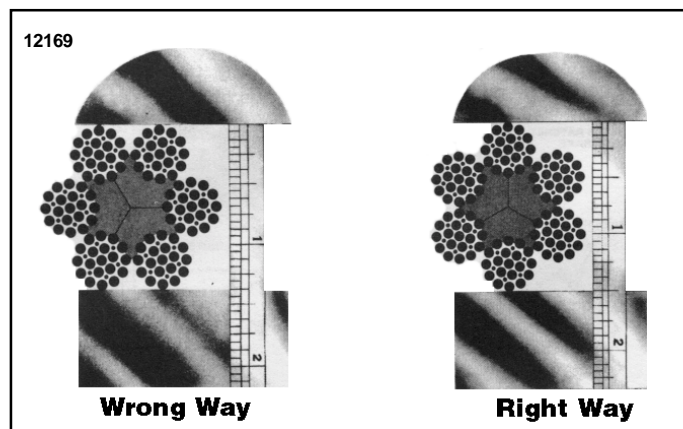

Figure 8-2. Correct Method of Measuring Rope
- (1) Reduction of rope diameter due to loss of core support, internal or external corrosion or wear of outside wires from nominal diameter of more than 3/64 inch (1.19 mm) for diameter to and including 3/4 inch (19.05 mm). Correct method of measuring hoisting rope is shown in Figure 8-2.